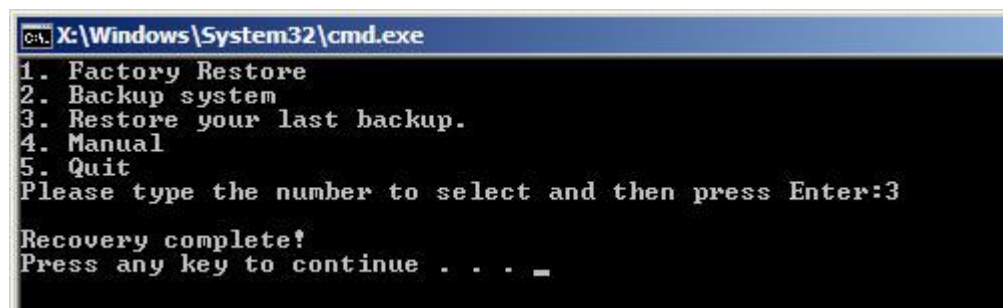

Figure B-29: Restore System Backup Complete Window
Step 17: The screen is shown as in **Figure B-29** when backup recovery is completed.